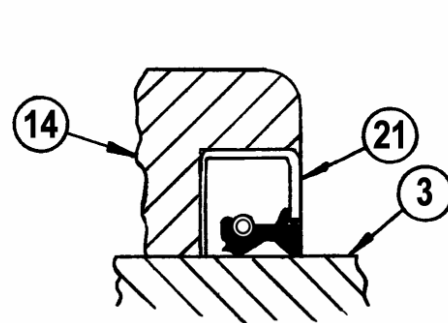

Figure 10-1B
15. Install a new lip seal (Key 21) into the upper end of the servo-valve housing. The lips of the seal should point toward the outside. (Refer to Figure 10-1B).